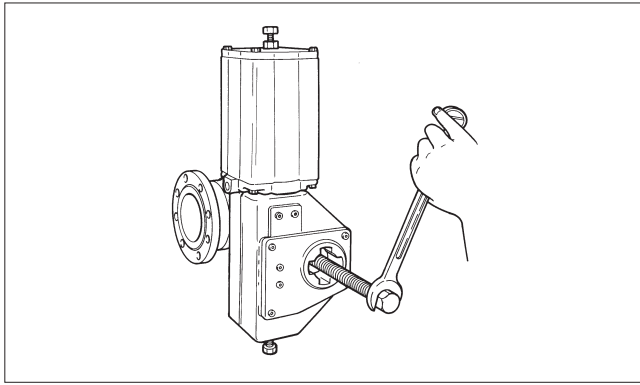

Fig. 41 Detaching an B series actuator
- Detach the actuator using a suitable extractor, see Fig. 41. The tool can be ordered from the manufacturer.